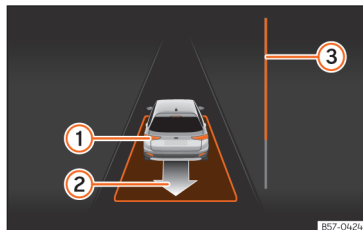

Fig. 200 On the instrument panel display: exit a parallel parking space.
The progress bar »» Fig. 200 ③ indicates the distance to cover »» page 278.